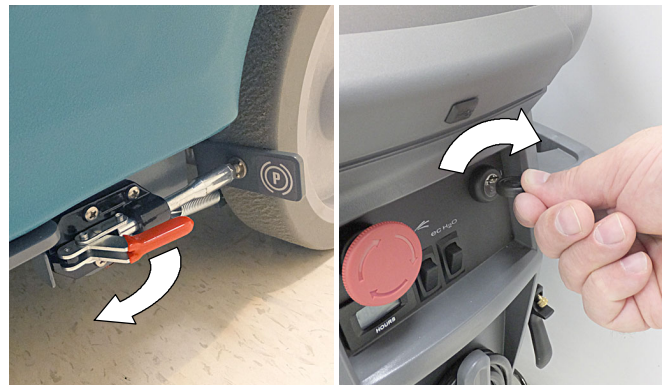

FIG. 65
1. Release the parking brake lever, if equipped (Figure 65)
2. Turn the key to the on ( I ) position (Figure 65).